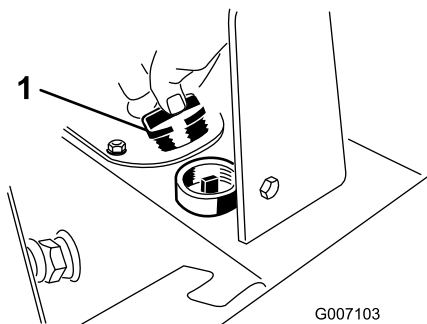
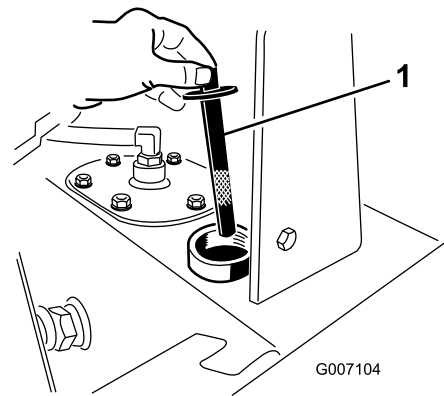

Figure 72
Figure 73
6. Remove the hydraulic tank cap and dipstick (Figure 72 and Figure 73).